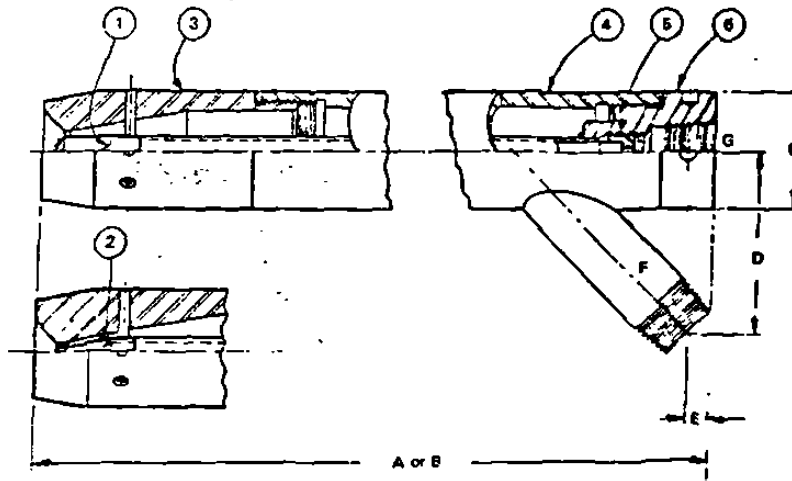

FIG. 5 - BURNER DIMENSION DRAWING
- S - Burner model style. Reference Fig. 5 and Table 6.
4. E - The elongated version of this burner. Suitable for the longer lengths required between the burner tile and burner mounting bracket with underport firing. Reference Figure 5 and Table 6.